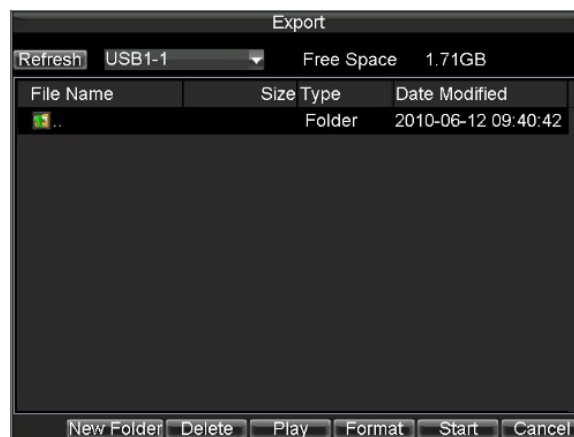

Figure 3. Export Menu
5. The size of the currently selected files is displayed in the lower-left corner of the window. Select the Export button to enter the Export menu, shown in Figure 3.